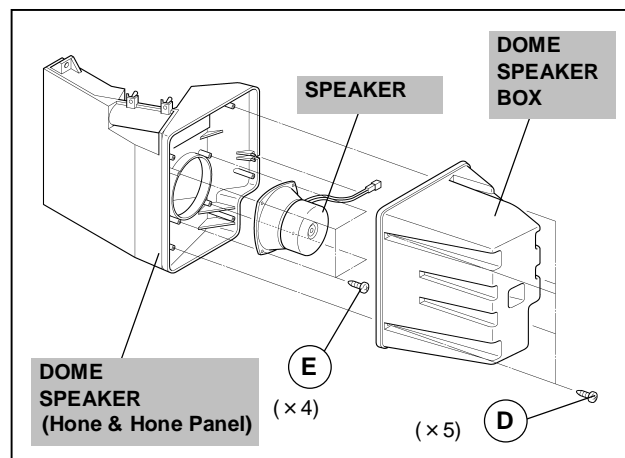

Fig. 2
2. Remove the 5 screws marked **(D)** as shown in the Fig.2, then remove the dome box.
3. Remove the 4 screws marked **(E)** as shown in the Fig.2, then remove the speaker.